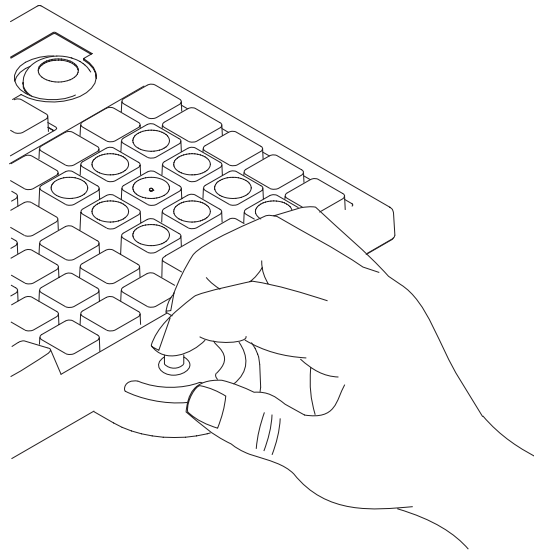

Figure 39. Resting finger positions
- With their forefinger while resting the third, fourth, and fifth fingers on the edge of the keyboard (see Figure 39).